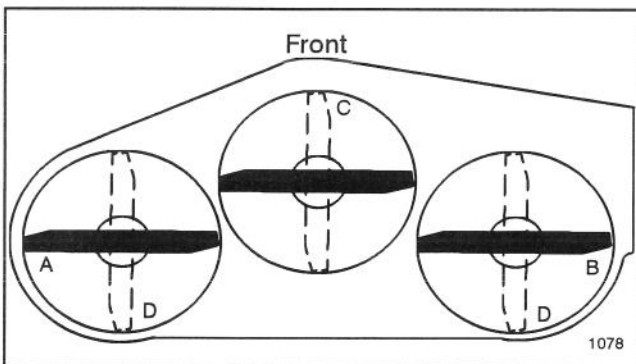
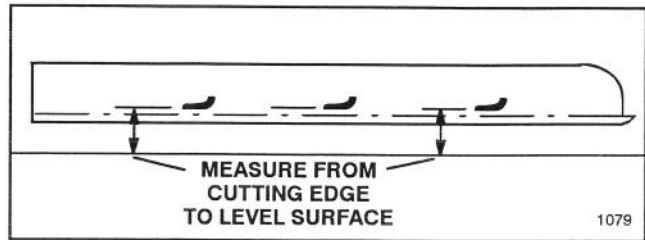

Figure 14
Figure 15
1. Position blade(s) front-to-rear (Fig. 14). Measure at "C" and "D" locations (Fig. 14), from level surface to the cutting edge of blade(s) (Fig. 15).
1. Position blade(s) side-to-side (Fig. 14). Measure at "A" and "B" locations (Fig. 14), from level surface to the cutting edge of blade(s) (Fig. 15).